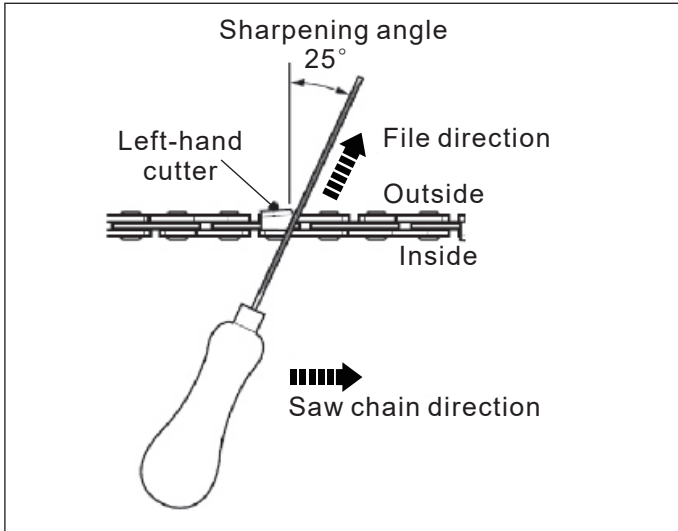

Fig. 23b
- 6). File at an angle perpendicular to the bar, and at an angle of 25° to the direction of travel. (See Fig. 23b)